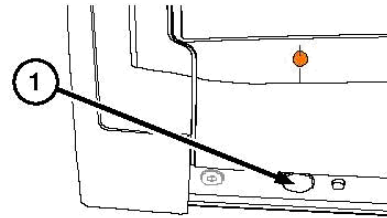

Figure 7 On/Off Button
- Press the on/off button on the computer's lower side, see pos 1 in Figure 7, or
- Press the on/off button on the computer's left side, see pos 1 in Figure 7, or